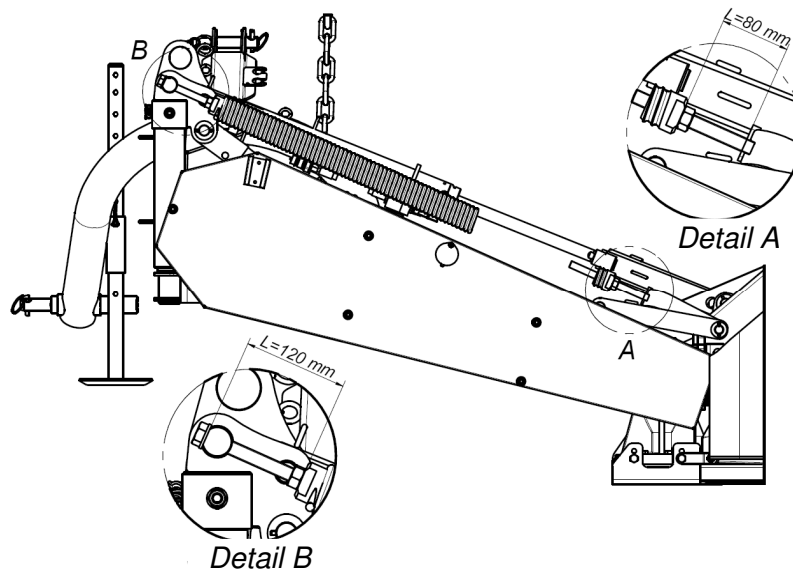

Fig. 23. SAMBA 240 ground pressure setting
- ❑ Ground pressure and spring setting can be done in various of ways, depending on the mower type. In Samba 240 the adjustment is to be made from both sides of the spring (**Fig. 23**). The rest of Samba mowers is to be adjusted with spring tension bolt from the headstock side.